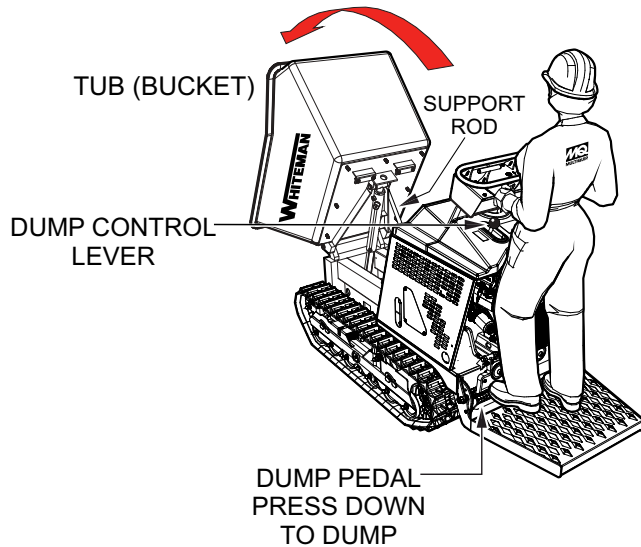

Figure 2. Tub Placement (Dump Position)
2. Using the dump control lever (Figure 2), place the tub in the discharge position (dump).
3. Secure tub with support rod as shown in Figure 2.